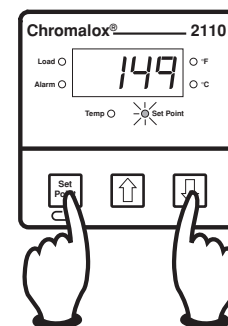

Figure 1.3
3. While still pressing the Set Point button, press either the \uparrow or \downarrow button to adjust the set point to the desired value (see Figure 1.3). Holding the \uparrow or \downarrow button increases the speed of the set point changes.